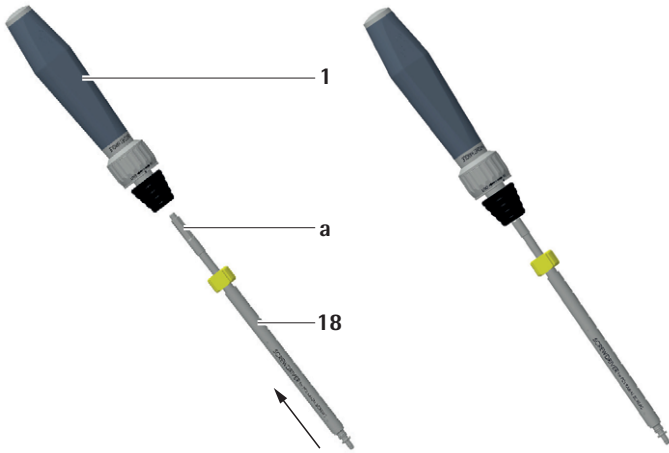

Fig. 18
- ▶ Push the straight handle 1 (SZ001R) onto the hex connection a of the screwdriver 18 (SZ063R) up to the stop, see Fig. 18.